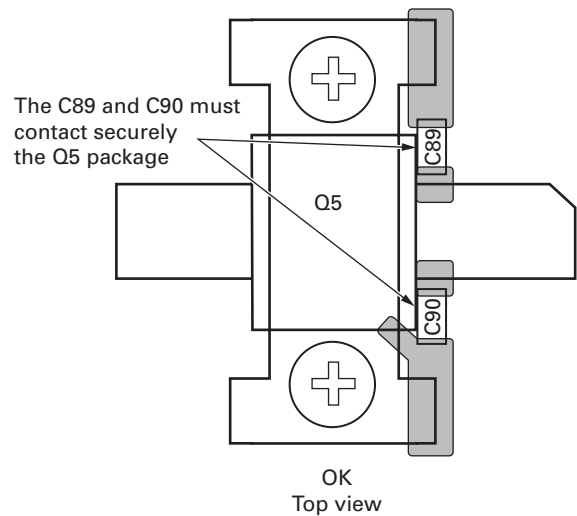

Fig. 9-4
3. To solder the source side of C90 (FET Q5 source side), solder the earth springs until they are fully covered. (Refer to Fig. 9-4.)